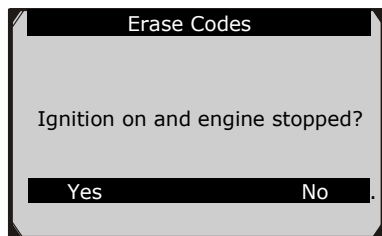

Figure 6.9
2. After you have pressed **OK** button, a message will come up asking you to confirm the ignition and engine status.(Figure 6.9)